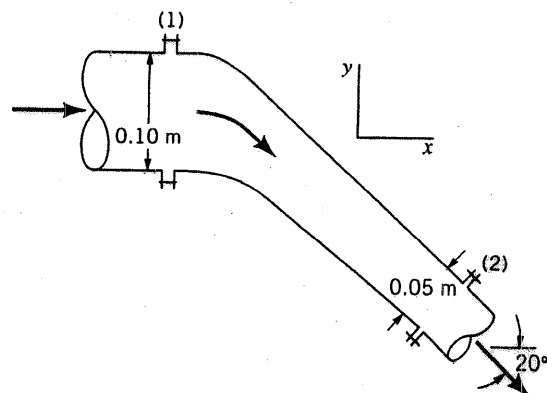

FIGURE P5.31
5.31 Water flows through the 20° reducing bend shown in Fig. P5.31 at a rate of $0.025 \text{ m}^3/\text{s}$. The flow is frictionless, gravitational effects are negligible, and the pressure at section (1) is 150 kPa . Determine the x and y components of force required to hold the bend in place.